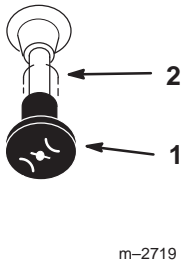

Figure 14
- After the engine starts, move the choke to off (Fig. 14). If the engine stalls or hesitates, move the choke back to on for a few seconds. Then move the throttle lever to desired setting. Repeat this as required.